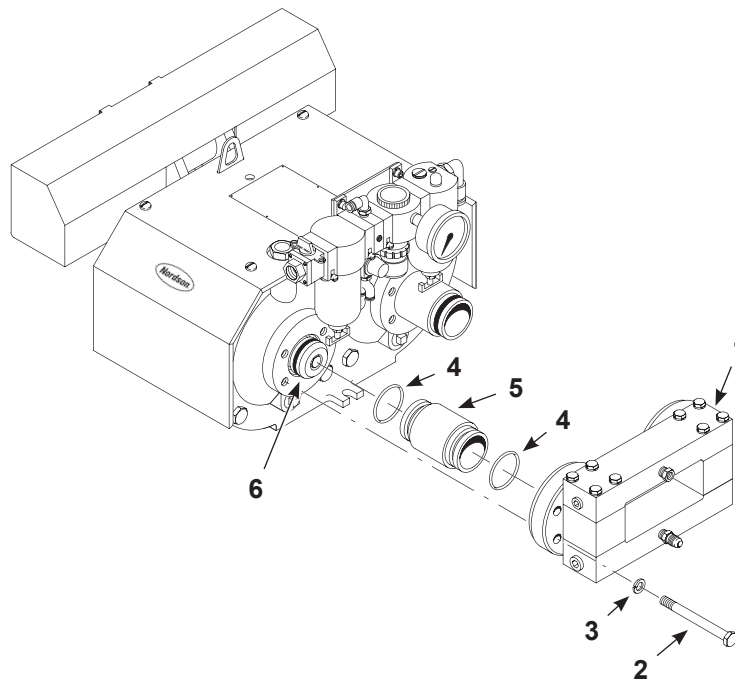

Figure 6-1 Hydraulic Section Removal
1. See Figure 6-1. Remove the screws and lock washers (2, 3) that secure the hydraulic section (1) to the pump.
2. Remove the high-pressure cylinders (5). Remove the O-rings (4) from the cylinders.